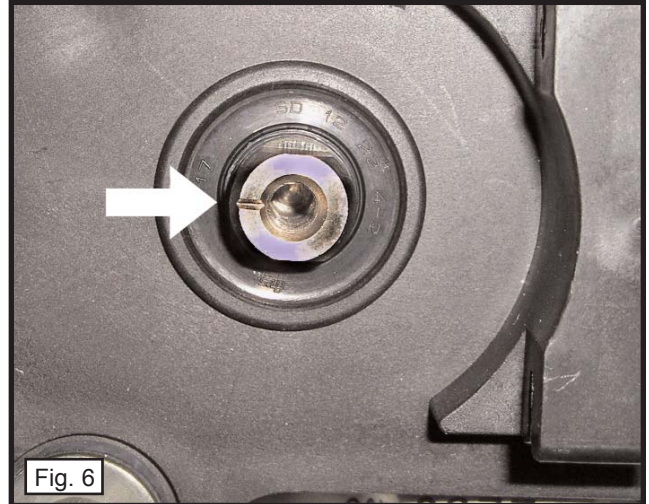

Fig. 6
- 15) Take note of the line on top of the servo shaft. This line must be facing away from the stop block. If it is not facing away from the stop block, using your key, turn the ignition to the "on" position and the servo will rotate. Turn off the ignition when the line is facing away from the block. (Fig. 6)